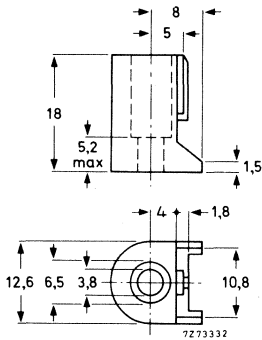

Fig. 2a. Thermoplastic mounting bracket 4332 026 11110.
- thermoplastic bracket for rail or panel mounting (catalogue number 4332 026 11110), Fig. 2a;